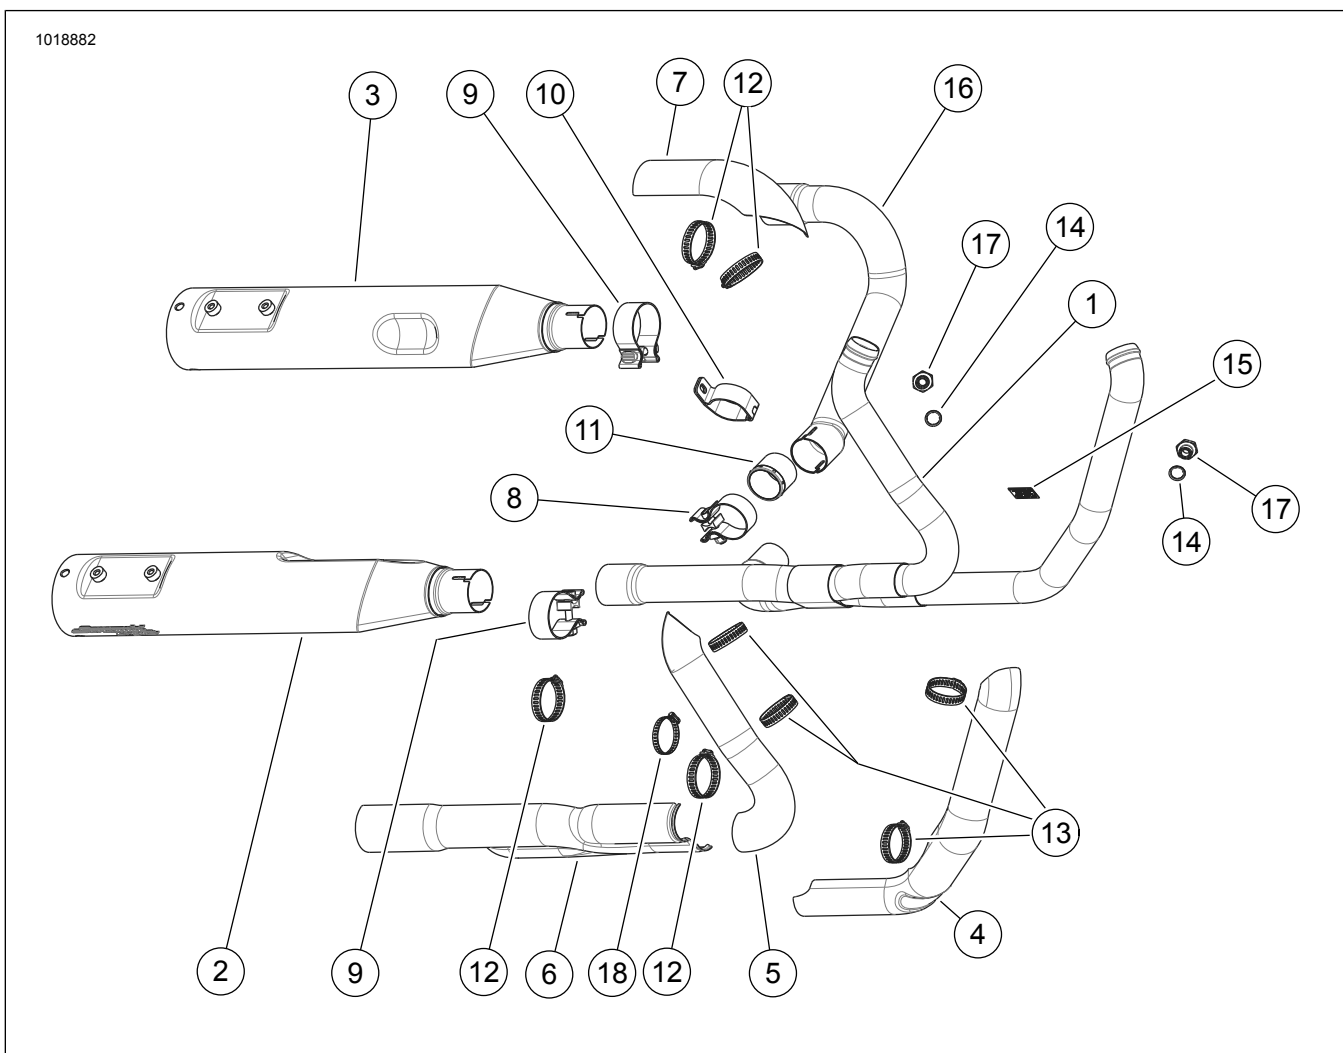

Figure 1. Service Parts: Screamin' Eagle High-Flow Exhaust System
See Figure 1 and refer to Table 1.
3. Remove the original equipment (OE) exhaust system. Retain exhaust flanges and mounting hardware for later installation. See the service manual.
6. See Figure 1. Install HO2S adapter with supplied gaskets (11) in **new** head pipe.